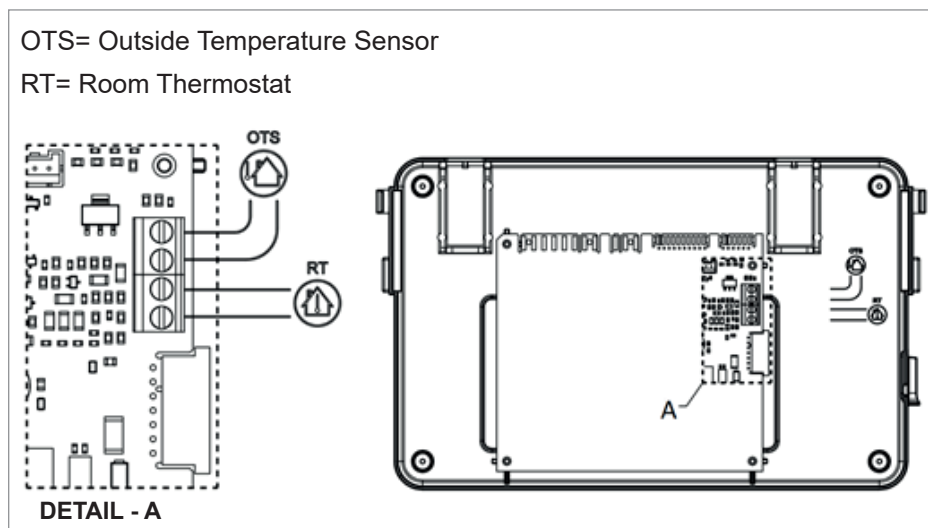

Figure 19. Interior view of the plastic panel
- f. Connect remote control, room thermostat and outside sensor wires as shown in Figure 19 detail A. Note: Room thermostat is in bridged condition as factory setting. If room thermostat will not be used, certainly it must be left as bridged.